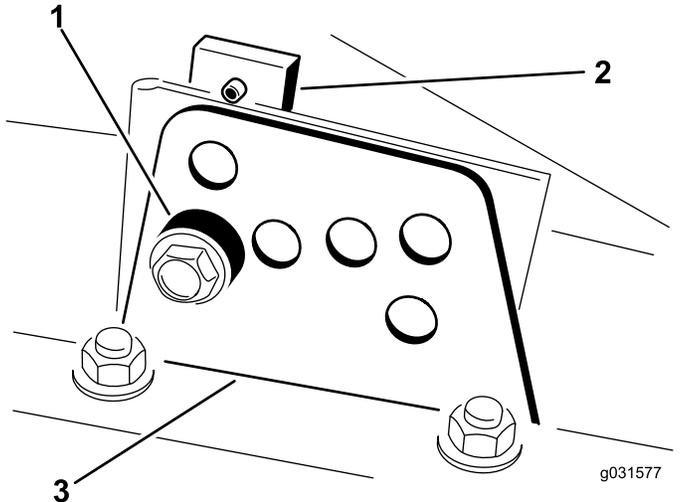

Figure 13
2. Loosen the bolt securing each height-of-cut bracket to the height-of-cut plate (front and each side) as shown in Figure 13.
4. While supporting the chamber, remove the spacer (Figure 13).